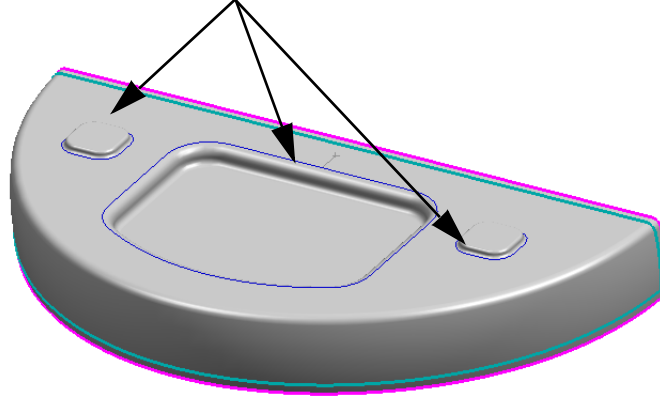

**Figure 4–49**
14. Switch to the NX window and review the producibility and flat pattern results as shown in Figure 4–49.